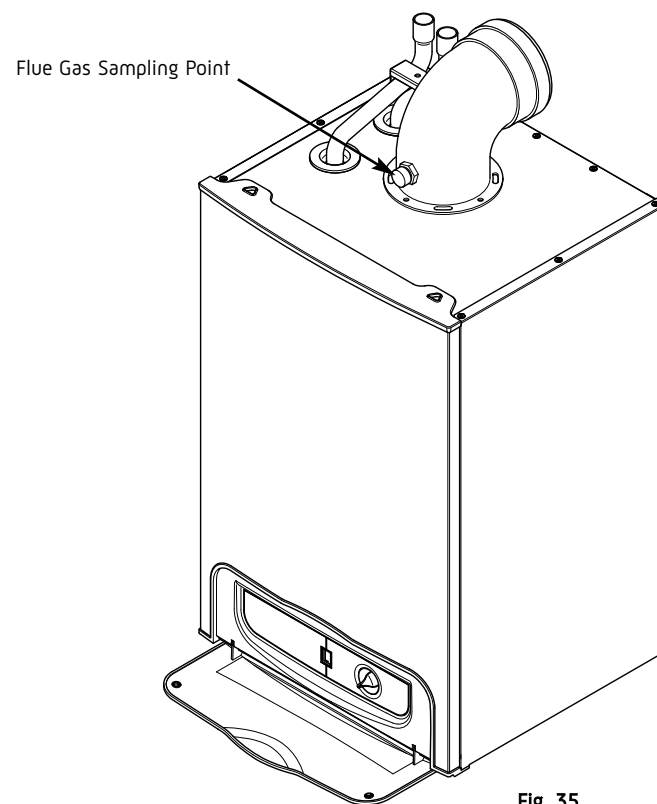

Fig. 35
4. With the appliance operational, connect the flue gas analyser to the flue sampling point as shown in Fig. 35.